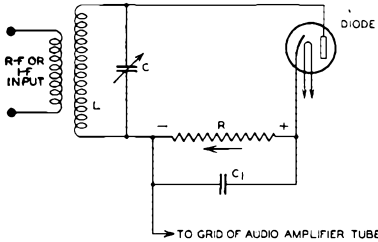

Fig. 18
dynamic characteristic required for low-distortion detecting action. Fig. 18 shows a half-wave diode detector circuit. The audio signal voltage is developed across the load resistance (R).
Automatic control of receiver volume generally utilizes a rectified voltage which is dependent on a radio-frequency or intermediate-frequency carrier signal. This voltage is utilized to regulate the gain of the r-f and/or i-f amplifier stages so as to maintain essentially constant-carrier input to the audio detector. The regulation of amplifier gain by means of the rectified voltage may be accomplished by a number of methods, differing chiefly in the means of applying the voltage to the various electrodes of the amplifier tubes. For example, the control voltage might be applied to the suppressor, plate and/or screen of an r-f pentode. A more familiar method is that in which the control voltage is applied to the grid of the r-f amplifier. In Fig. 18, current flows from plate to cathode, through R back to LC. This places the cathode end of